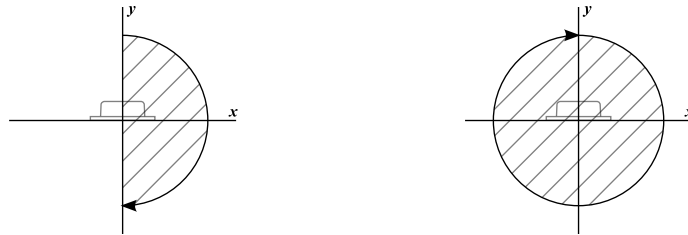

Figure 1: From left to right: 180° of coverage, or 50%. 360° of coverage, or 100%.
2. Rotate the MotionNode in space. The more complete the *coverage*, the better the resulting calibration. Think of *coverage* as the total number of orientations you rotate the MotionNode through. See Figure 1 for an example in 2D, on a circle. You will have to work in 3D, on a sphere, but the concept is the same.